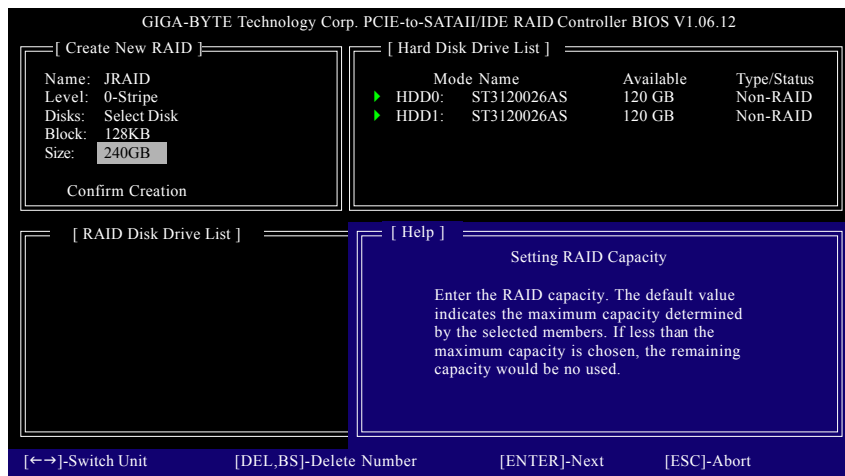

Figure 8
**5. Set Array Size:** Under the **Size** item, type the size of the array (Figure 8), and press ENTER.